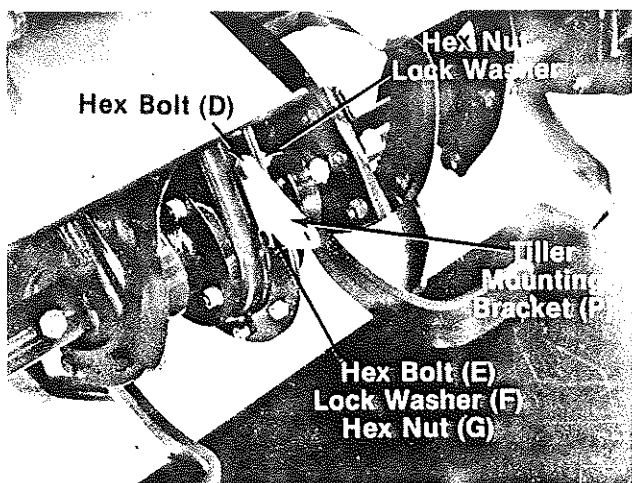

FIGURE 4.
3. Mount the tiller mounting bracket (P) to the chain case in the position shown in figure 4. Use hex bolt (D) and the lock washer and hex nut removed in step 2 to secure the upper hole. Use hex bolt (E), lock washer (F) and hex nut (G) to secure the lower hole.